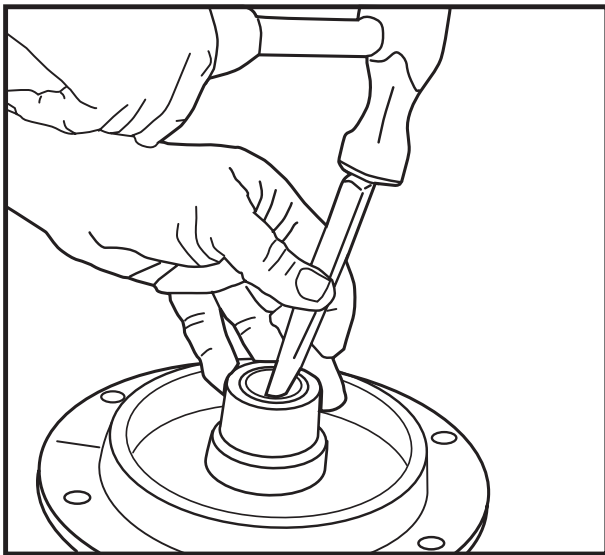

Fig. 18
9. Remove ceramic seal face and rubber retaining boot by prying seal out with flat blade screwdrivers. (Seal can be pressed out with a screwdriver from the opposite side.) Be careful not to scratch bronze bushing. Damage to seal is not important, as a new part must be installed. See Figure 18.